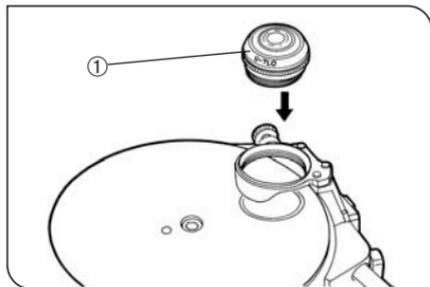

Fig. 5
Mount the top lens ① by rotating it clockwise. (Fig. 5)